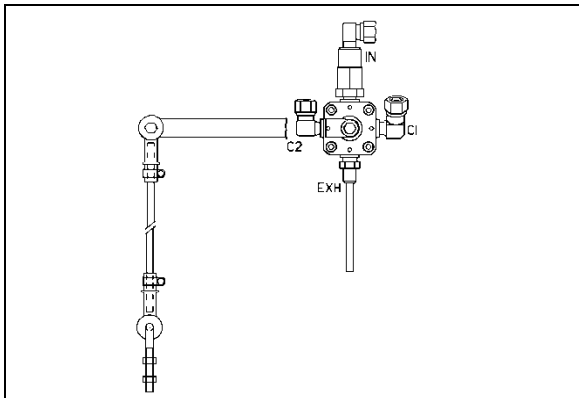

FIGURE 21: REAR HEIGHT CONTROL VALVE 16093
- Loosen the clamp on the height control valve rubber coupling and bring it up or down (Figure 21).